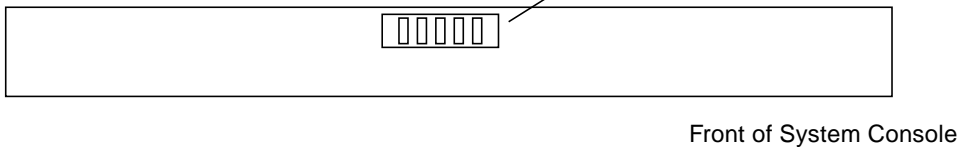

FIGURE 7-2 System Console Cover Latches
3. There is one screen latch on each side of the System Console, as shown in FIGURE 7-2. Slide the latches and lift the cover.
5. **One screen latch is on each side of the System Console, as shown in FIGURE 7-2. Slide the latches forward and lift the cover.**